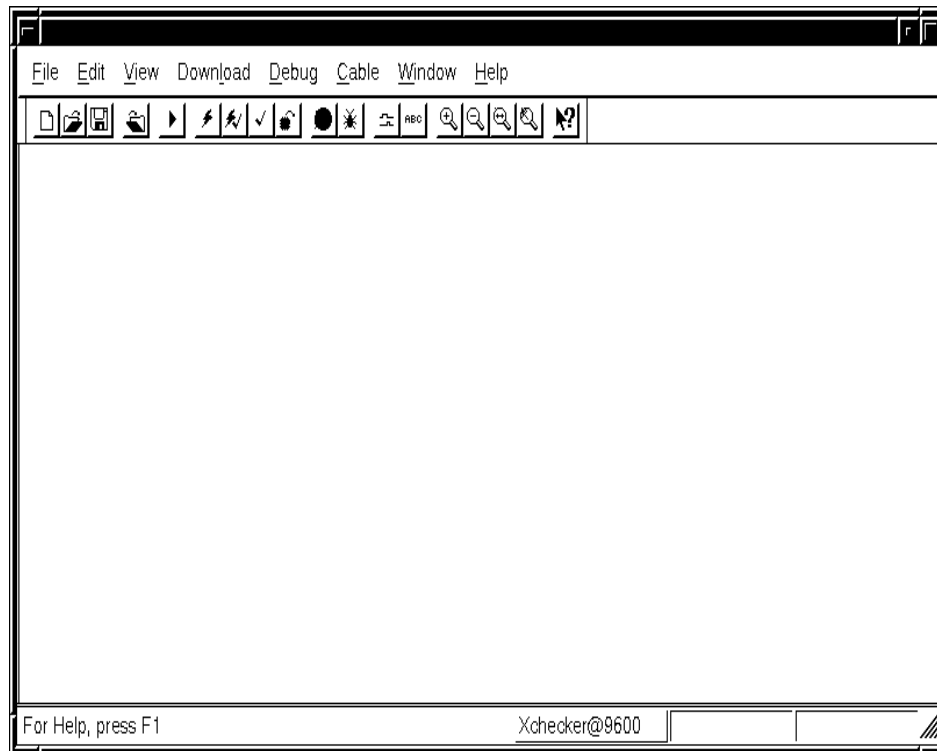
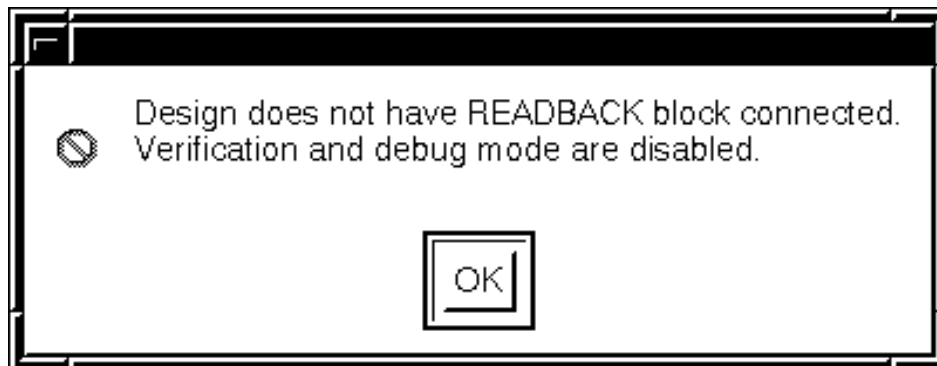

Figure 31: Hardware Debugger.
Figure 32: Verification and Debug notice.
(1) At this point, you must be using a workstation which has the required Xchecker cable connecting the workstation's serial port and the demo board. With the half_adder project still open, select Tools -> Hardware Debugger from the Design Manager's menu bar. The Hardware Debugger window will appear as shown in Figure 31. An additional window will appear (see Figure 32) with the notice that the design does not have a READBACK block connected. This is normal. Select OK in this window to continue.